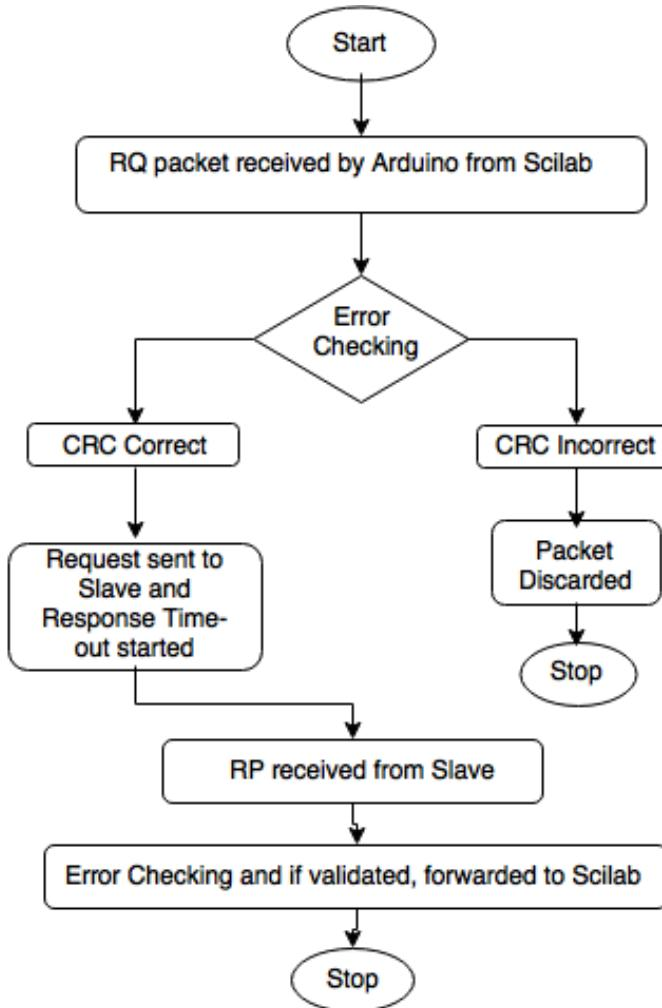

Figure 11.19: Flowchart of Arduino firmware
1. Firmware for Arduino Uno: This firmware is needed to communicate with Julia (using serial interface), and with RS485 module (using Software Serial interface). Control logic to enable receive and transmit modes of MAX485 chip is also present in this firmware. Fig. 11.19 demonstrates the overall implementation of this firmware.